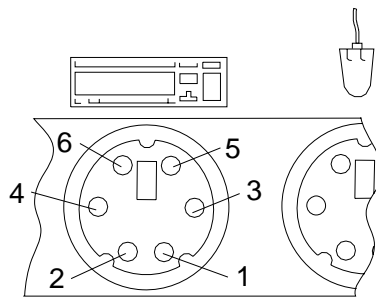

Figure 2-4. Keyboard Connector Voltage Check
- Check the voltage at the keyboard cable connector on the system board, shown in Figure 2-4 on page 2-41, after the POST.